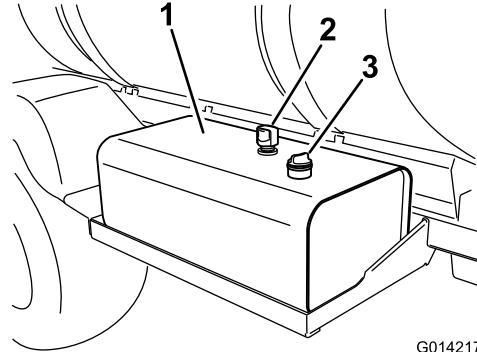

Figure 90
2. Clean the area around the hydraulic-fluid-tank dipstick cap and remove it (Figure 90).